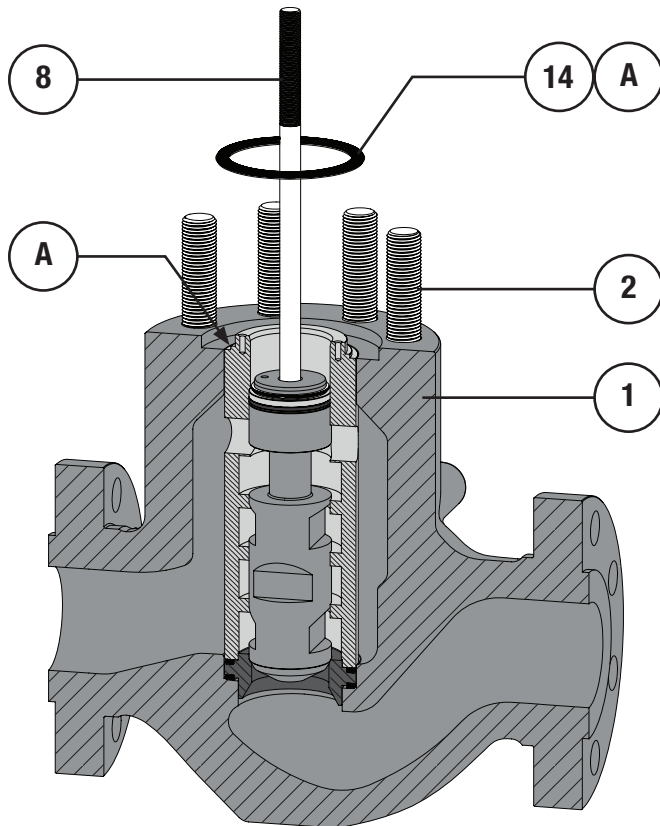

Figure 21 Trim Parts Installation (Step 6)
- 6 Apply Permatex® Nickel Anti-Seize (Key A) to the gasket surface of the cage (Key 5) and bonnet (Key 15). Install the gasket as shown in Figure 21 or 22. **NOTE:** For 300-600 ASME class valves, a gasket (Key 13) is used. For 900-1500 ASME class valves, a spiral wound gasket (Key 14) is used.